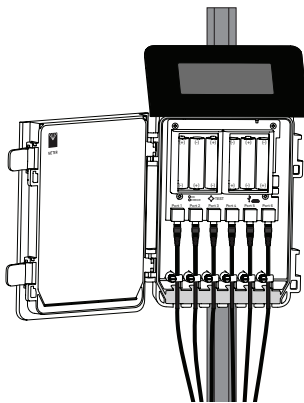

Figure 3 Logger connection
1. Plug the stereo connector into one of the sensor ports on the logger (Figure 3).